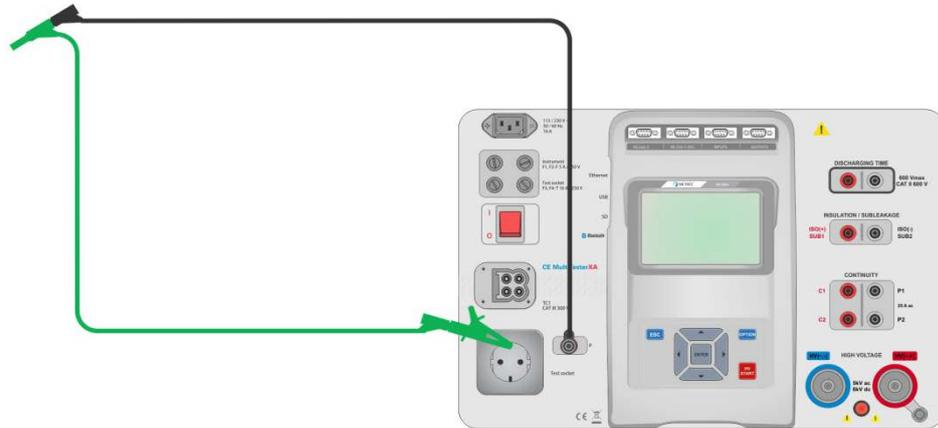

Figure 6.20: Shorted test leads
- ▶ Connect test leads to the instrument and short the test leads together, see *Figure 6.20*.